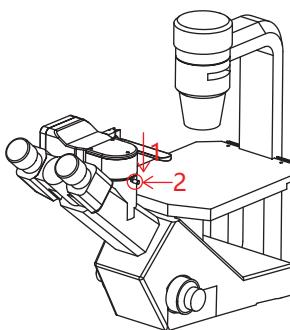

图2
2) Place the camera on the microscope and tighten the screws as shown in Figure 2;